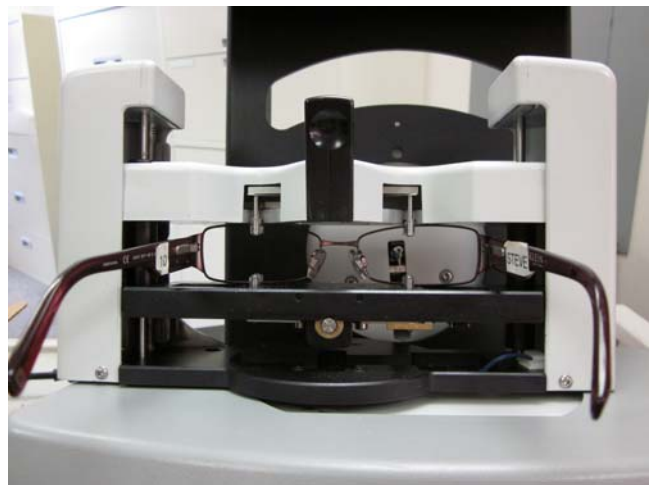

Figure 3.1b: Frame loaded and ready to trace.
4. Release the frame holder actuator. Figure 3.1b shows the mounted frame.